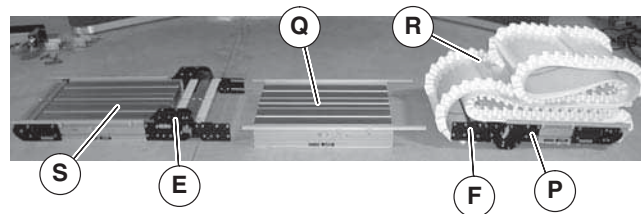
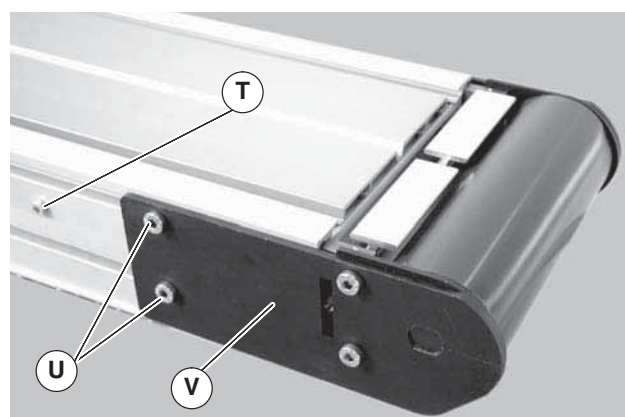

Figure 4
Figure 5
2. On tension end of the conveyor, identified by the pinion locking screw (Figure 4, item T), push in head plate assembly (V): Loosen the pinion locking screw (T), adjust the pinion torque screw (Figure 5, item W). On both sides of conveyor, loosen the two tail clamp bolts (Figure 4, item U), and push head plate assembly (V) inward.